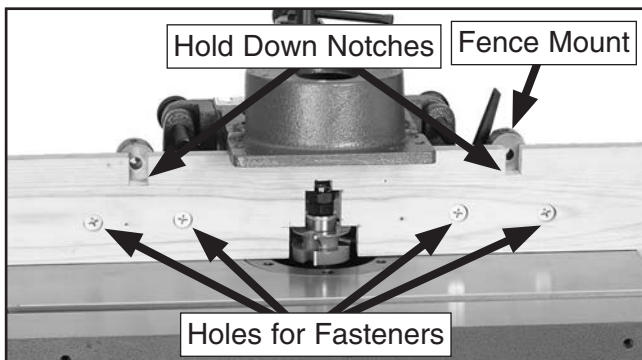

Figure 46. Example of a zero clearance fence.
Shaping small stock is inherently dangerous on a shaper. Consider making a zero-clearance fence (see **Figure 46**) to provide more support than a standard fence and reduce tearout on narrow or fragile stock.
6. Cut notches in the top of the board for attaching hold-downs (**Figure 46**), secure it to the fence mounts with the fasteners removed in **Step 2**.